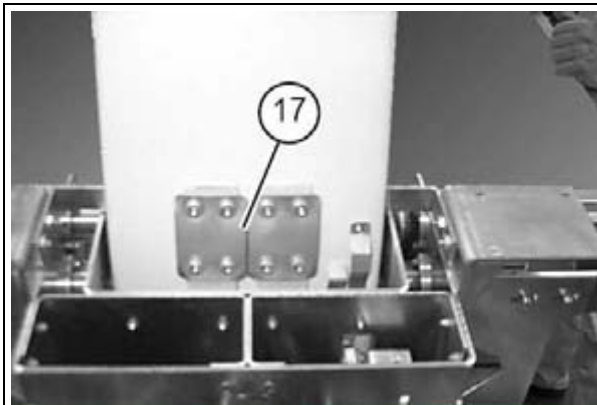

Fig. 38: Attachment plates
- Move the C-arm outward as far as possible, passing the -10° position, using the tensioning belt until the attachment plates on the back ((17/Fig. 38 / p. 66)) can be removed.
- Insert the screws first through the attachment plate ((17/Fig. 38 / p. 66)), then through the toothed belt and finally tighten them in the C-arm, securing them with Loctite. Use a 5 mm Allen wrench **with guide pin** to tighten them.